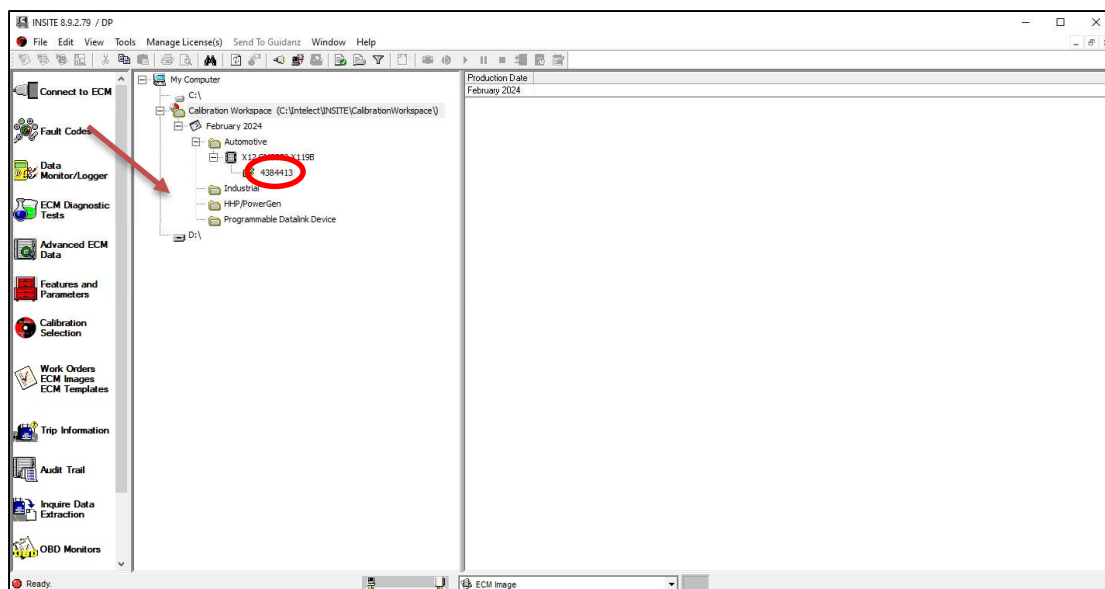

Figure 24
34. Expand the Work Space files until the ECM part number is shown. Double click on the ECM part number. See figure 24.